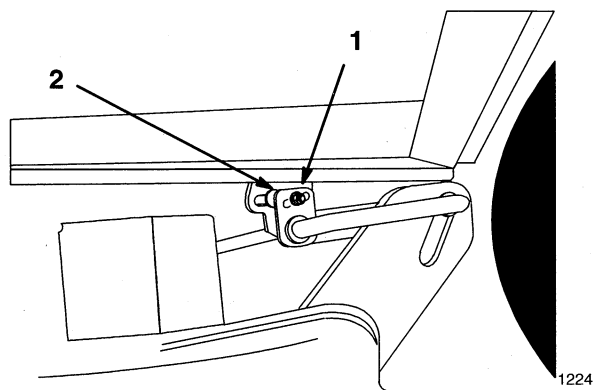

Figure 10
4. Loosen adjustment bolt on one side and rotate hanger bracket to raise or lower mower (Fig. 10).